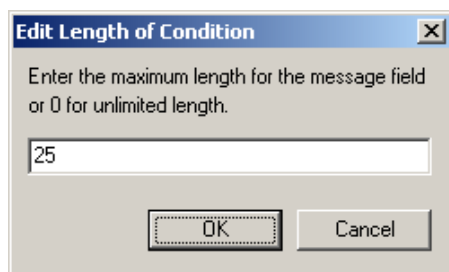

Figure 112. Edit Length Dialog Box
10. To change the maximum field length, select the desired field in the Name column and click **Edit**. The Edit Length dialog box shown in Figure 112 appears.